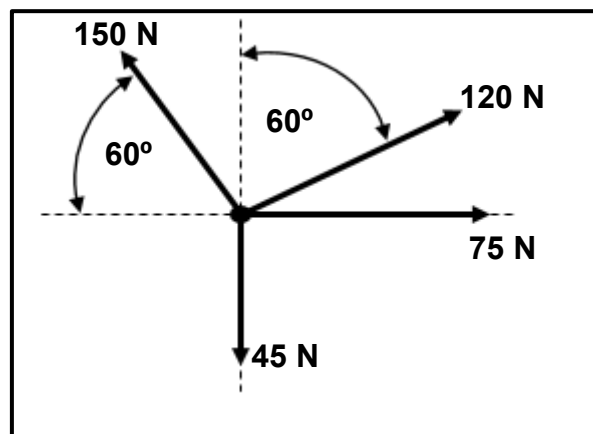

FIGURE 8.1
- 8.1 FIGURE 8.1 below shows a system of forces with four pulling forces acting onto the same point.
**HINT:** Draw and complete the diagram in FIGURE 8.1. Show ALL the horizontal and vertical components before you do the calculations.